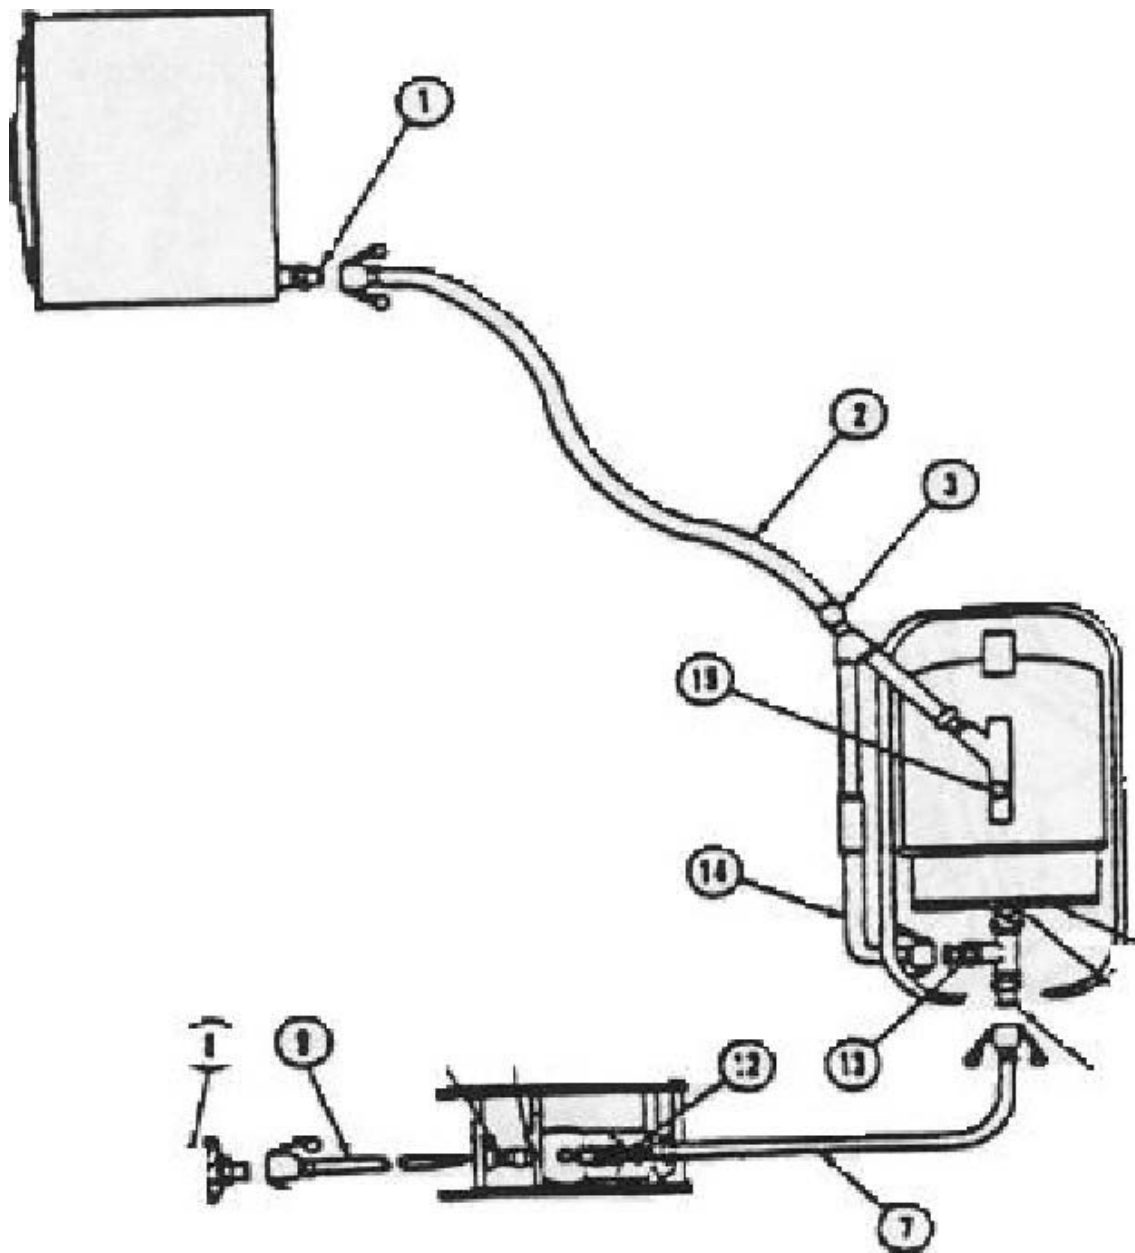

Figure 3-19
- f. Connect suction hose (9) to suction inlet. (See Figure 3-19)
- g. Connect suction strainer (8) to the other end of the suction hose (9). Position the strainer in the water source above the team bed. Make a tripod from tree branches or sapling and hang the strainer from the place where the branches are tied together, or position the strainer on a bed of stones or gravel.
- h. Connect water heater inlet hose (7) to water pump discharge outlet (12).
- i. Connect the other end of water heater intake hose (7) to water heater inlet (6).
- j. Ensure petcock valve (11) on water pump housing is closed. Clockwise rotation closes valve.